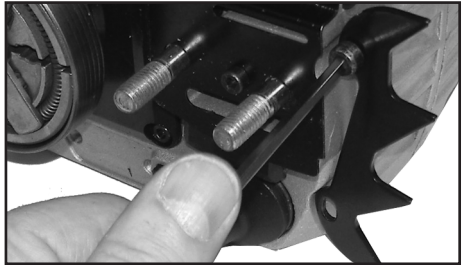

Fig. 2
2. Remove clutch cover by pressing the back end of the cover and pulling it off simultaneously. (Fig.2)
3. Attach the bucking spikes to the front of the saw body so the spikes point upward. (Fig.2)